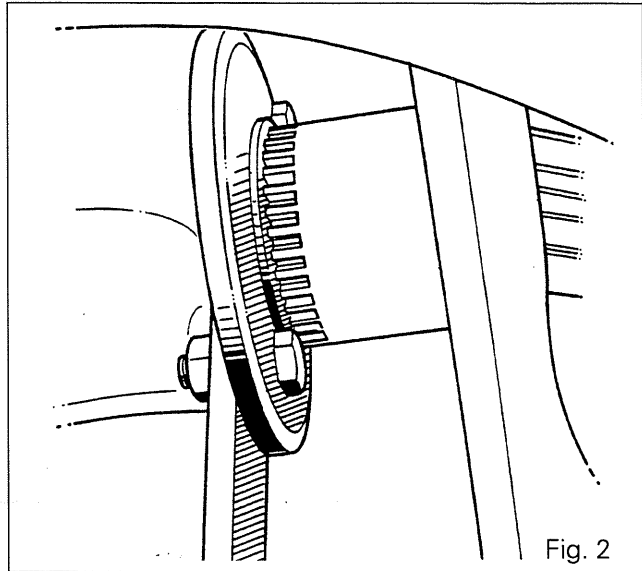
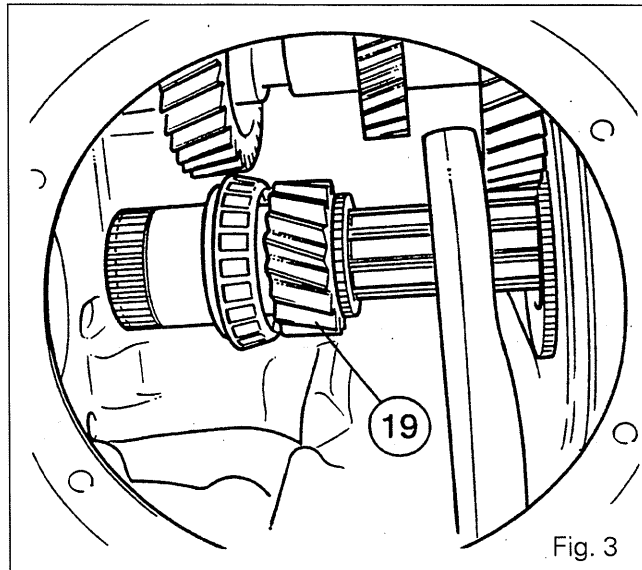
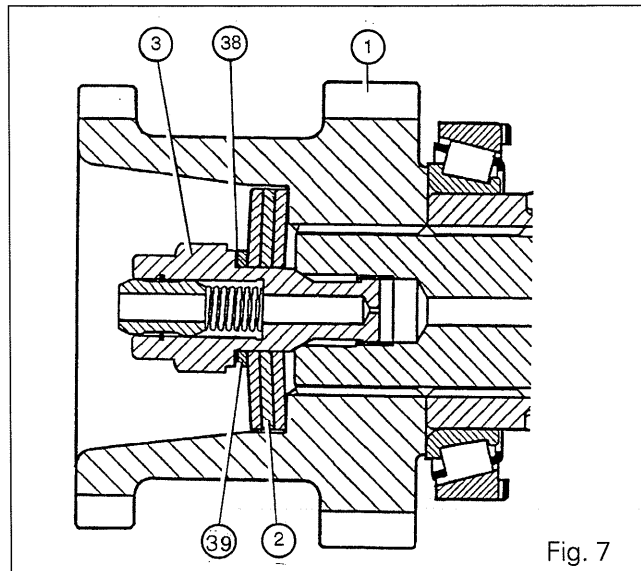

Fig. 2
Fig. 3
Fig. 7
9. Remove the snap ring (29). Extract the 3rd and 4th synchromesh (27) noting its position.
10. Remove the synchromesh ring (26), the cone (25) and the gear (24).
11. Hold the shaft using locally made tool using a clutch cover 4 RM, ref. 3384428 M1 (Fig. 2).
12. If necessary, remove the lubrication tube (4) and the spring (6).
13. Loosen the screw (3) using a 32 mm socket and a spanner of appropriate length.
14. Remove the shims (38) (39), the Belleville springs (2) and the input gear (1).
15. Remove the bush (8) together with the cone (9).
16. Remove the tool. Move the shaft out of the casing with the 1st gear (19) (Fig. 3) backwards, holding the fork, gear and synchromesh together.
35. Engage the shaft and the 1st gear (19) from behind the casing (Fig. 3) holding onto the gears-synchromesh assembly.
36. Slide the bush (8) with the cone (9) onto the shaft (7).
37. Fit the gear (1), the Belleville springs, (2) as shown in Fig. 7, the shims (39)- (38) chosen during operation 28, followed by the screw (3).
**Note : The shims (38) must be imperatively placed against edge of the screw (3).**